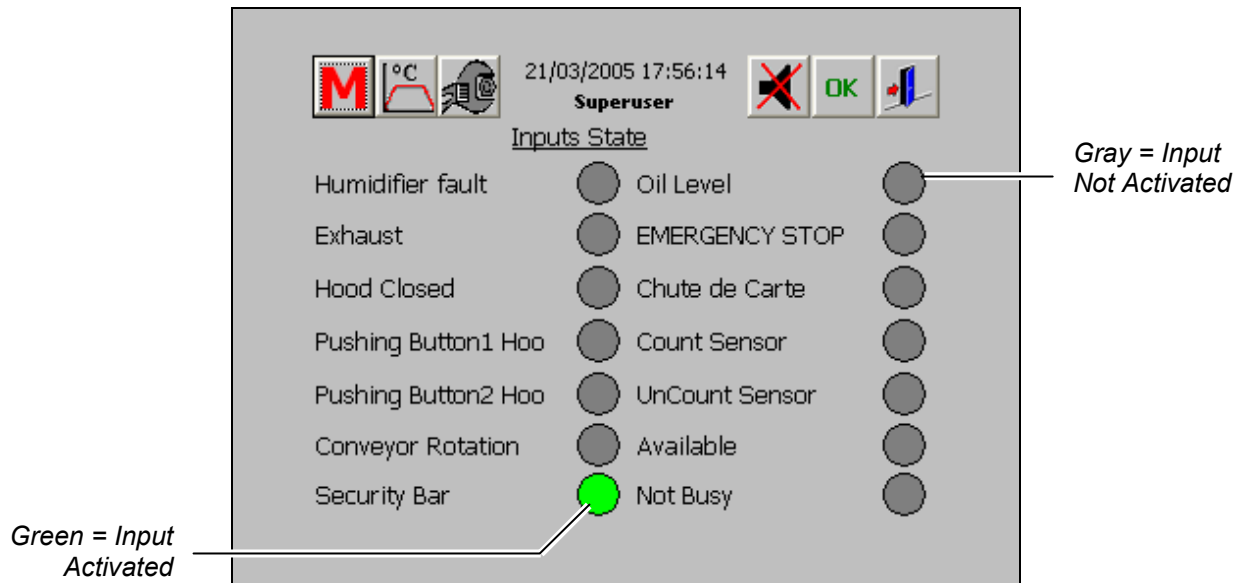

Figure 6-23 Inputs Status Box
3. The Inputs Status box will appear (Figure 6-23).